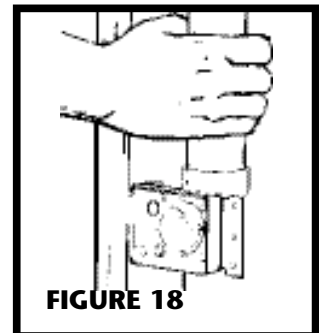

FIGURE 18
12. Refer to Figure 18. Insert tubing into fitting with a twisting motion to evenly spread cement. Be sure tubing is firmly seated in fitting.
NOTE: when wall inlets are installed in walls that are less than 1/2" thick or when inlets are installed back-to-back in a wall, the tube of the wall inlet may extend into elbow area of the flanged fitting and cause blockage. Shorten the wall inlet tube to prevent this condition. Refer to Figure 18.